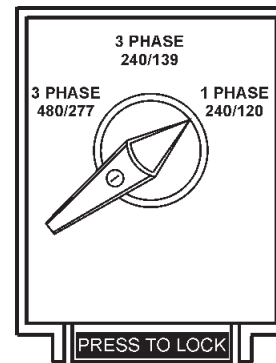

Figure 40. Voltage Selector Switch
- Place the **voltage selector switch** in the desired voltage position (Figure 40).